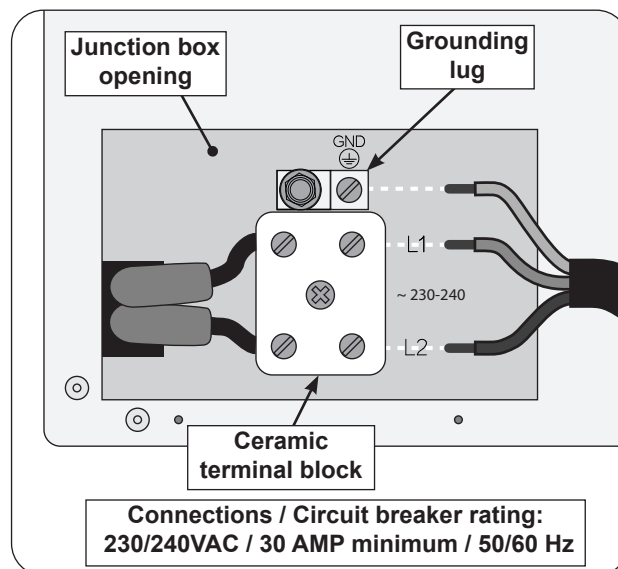

Fig. 32-3 Wire connection diagram
4. Connect the wires to the ceramic terminal block. Reference the wiring information below and Fig. 32-3.